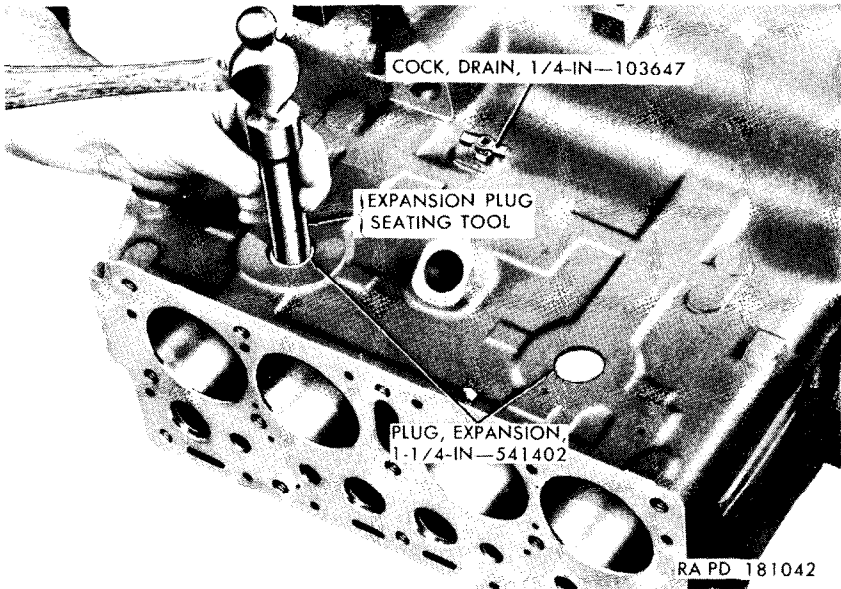

Figure 31. Installing expansion plugs.
d. Pierce the centers of the two expansion plugs (fig. 31) with a sharp chisel, and pry the plugs out of the cylinder block.
1¼-inch expansion plugs (D) in the right side of the cylinder block and the one 1¾-inch expansion plug (B) in the camshaft bore in the rear end of the cylinder block. Use the improvised expansion plug seating tool to seat the plugs in the block (fig. 31).